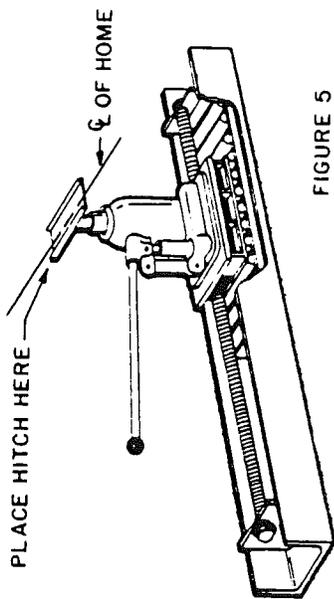
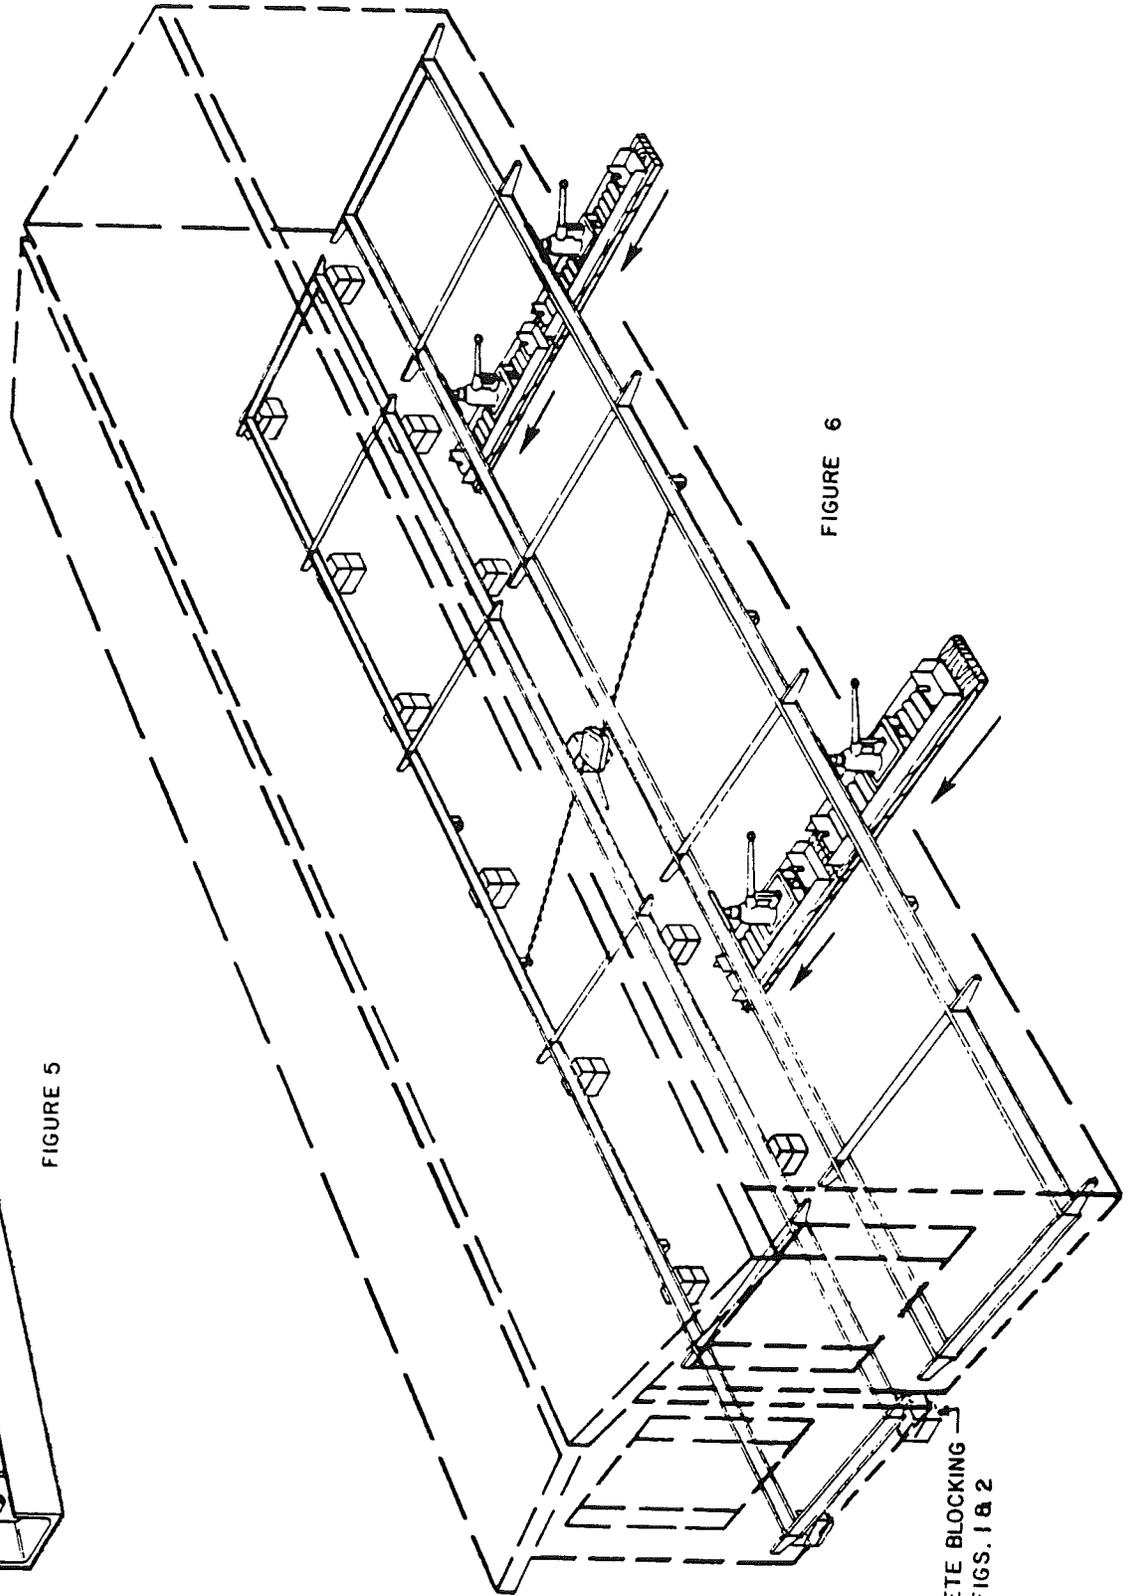

FIGURE 5
FIGURE 6
1. Position the "B" unit approximately 8" to 12" from the A unit being sure that the floor ends are even. A multi-directional dollie type setting system is recommended for the final positioning of this half. These dollies are constructed so that hydraulic jacks can be positioned on roller-tracks under the frame members. This allows the unit to easily roll sideways or front to rear, minimizing any possibility of warranty-voiding frame damage. See fig. 5 and fig. 6.